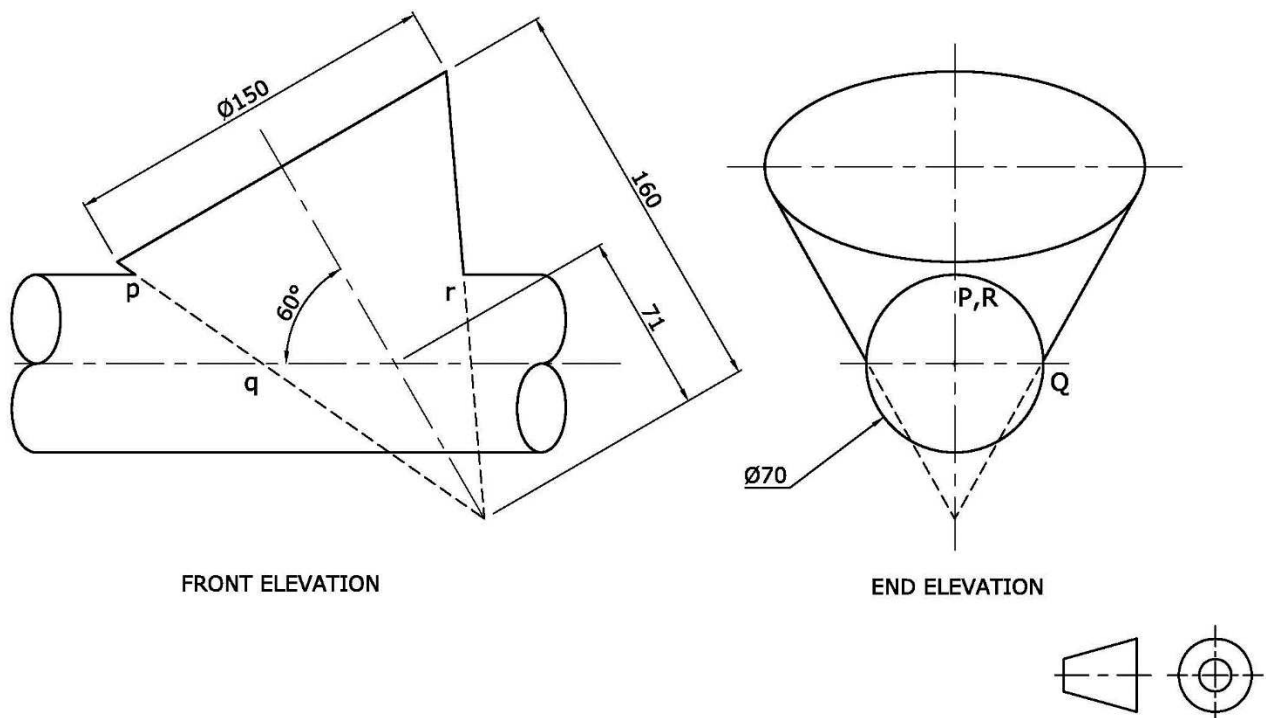

Figure 2b
a) Draw, full size, the incomplete elevation of the cone shown in Figure 2b. (2)
b) Copy the end elevation of the cone and the cylindrical pipe. (3)
c) Determine the points which shall be on the joint line for the cone to complete the front elevation and draw a smooth curve to show the interpenetrating curve between the inverted right cone and the cylinder. (4)
d) Draw the development represented by the arc PQR of the cylinder. (4)